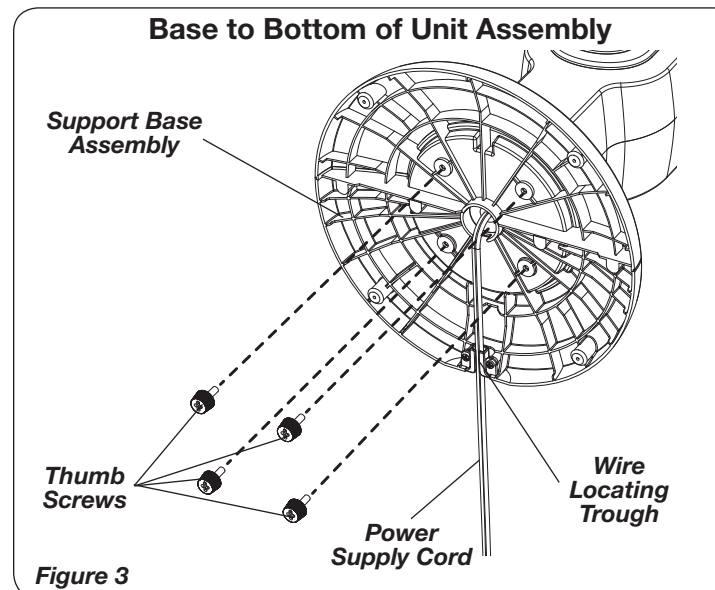

Figure 3
4. Secure the *Support Base Assembly* to the bottom of the Fan with (4) *Thumb Screws*. Gently pull any excess slack of the *Power Supply Cord* and place it in the *Wire Locating Trough*. (*Figure 3*)